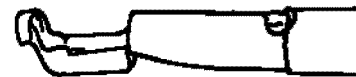

Figure 12. TG-135 Reflector
f. TG-135. Used for heating solder terminations sleeves and shrinking small-diameter tubing. Has to be ordered separately (Figure 12).